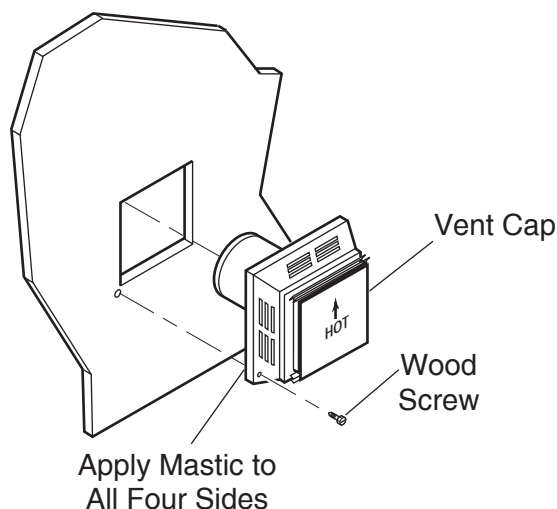

Figure 18 - Installing Horizontal Vent Cap
4. Apply a bead of non-hardening mastic around the outside edge of vent cap. Position the vent cap in the center of hole on the exterior wall with the word "UP" on the vent cap facing up. Insure proper clearance of 1" to combustibles is maintained. Attach the vent cap with four wood screws supplied. See Figure 18.